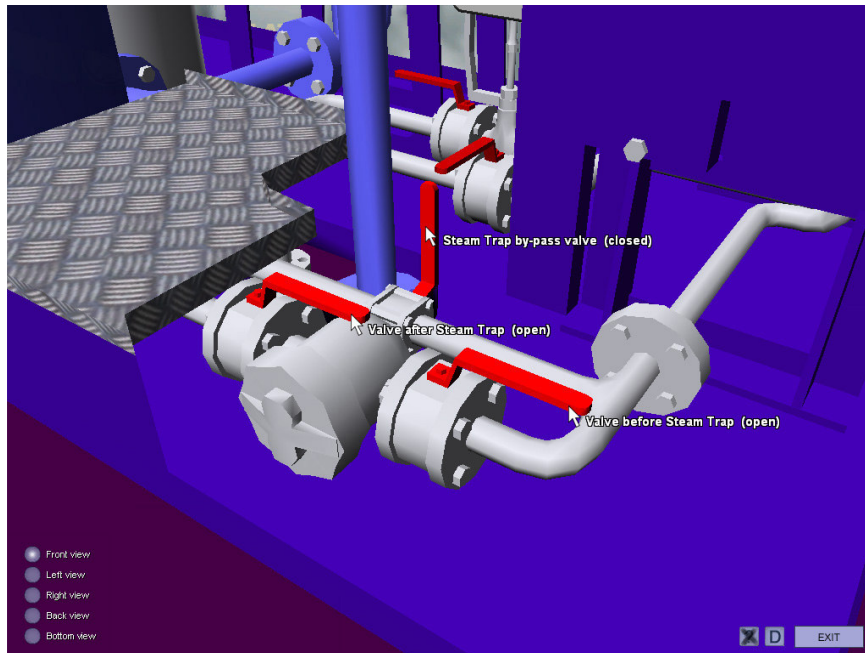

Fig. 25. Front view - Steam Trap with by-pass
11. Open valves before and after the Steam trap, check that the by-pass line is closed (fig. 25).